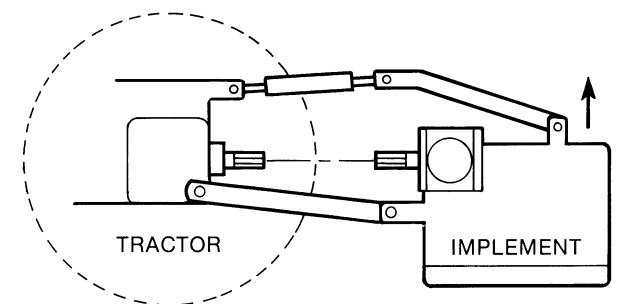

Figure 14
3. Raise the implement until the gearbox input shaft is level with the tractor PTO shaft as shown in Figure 14.